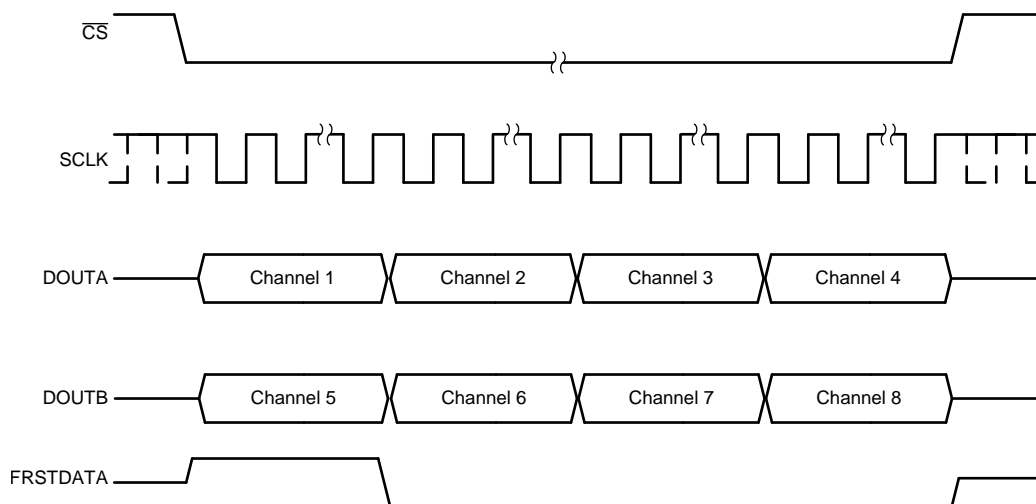

Figure 70. Data Read Back in the Serial Interface Using Both DOUTA and DOUTB Timing Diagram
- In order to minimize the time for the data read operation in serial mode, both DOUTA and DOUTB can be used to read data out of the device. In this case, the conversion results from the first set of channels (channels 1-4) appear on DOUTA and the conversion results from the second set of channels (channels 5-8) appear first on DOUTB. To read the data for all channels, provide a total of $16 \times 4 = 64$ SCLK cycles. This entire data frame can be created within a single \overline{CS} pulse or each group of 16 SCLK cycles can be individually framed by the \overline{CS} signal. Figure 70 shows an example timing diagram.